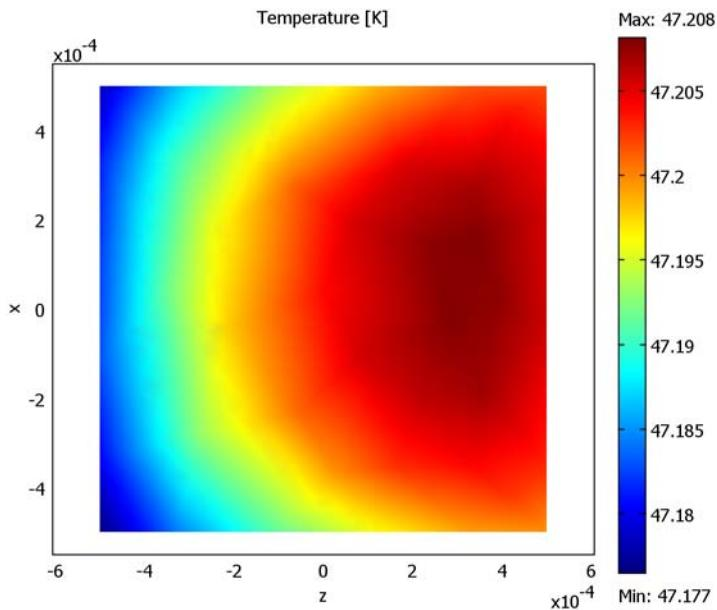

Figure 2-50: Temperature distribution on the bottom surface of the silicon chip.
- 5 To generate Figure 2-50, first choose **Postprocessing>Domain Plot Parameters**.